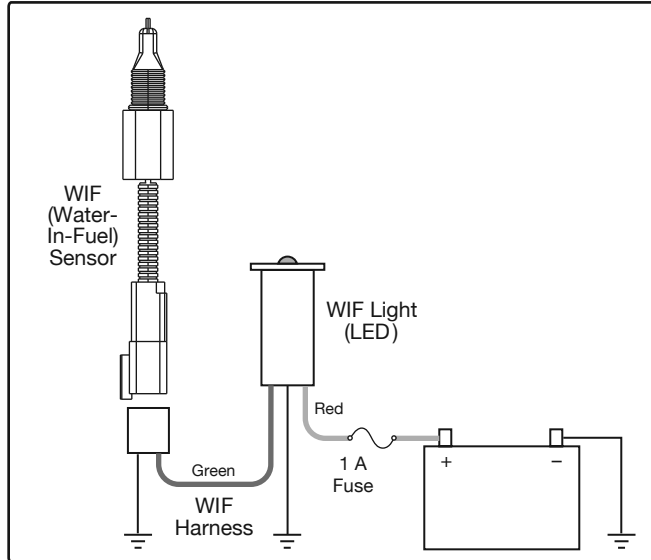

Figure 3 - WIF Wiring
- Locate 12 VDC or 24 VDC power source. Run red wire from power source to 4" (101.60 mm) red wire on WIF LED. Add a 1 A in-line fuse (not included). (See Figure 3.)